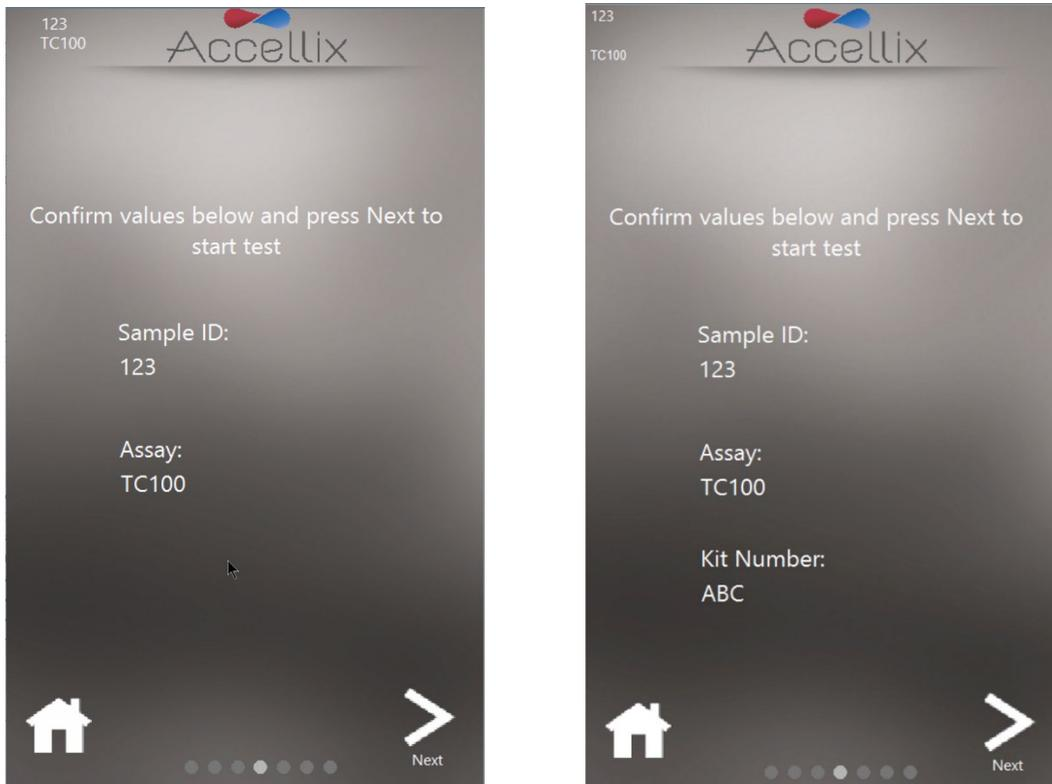

Figure 30: Confirm Sample ID and Assay/Cartridge screen (with and without Kit Number)
10. **Confirmation screen** (Figure 30) - The instrument screen now displays assay/cartridge type and Sample ID (and kit number if so configured) for the operator to confirm before commencing the assay run.
- c. Once the correct next cartridge of a multi-cartridge assay has been inserted, the software will display the **Confirm Sample ID and Assay/Cartridge** screen (Figure 30) and continue with that cartridge.